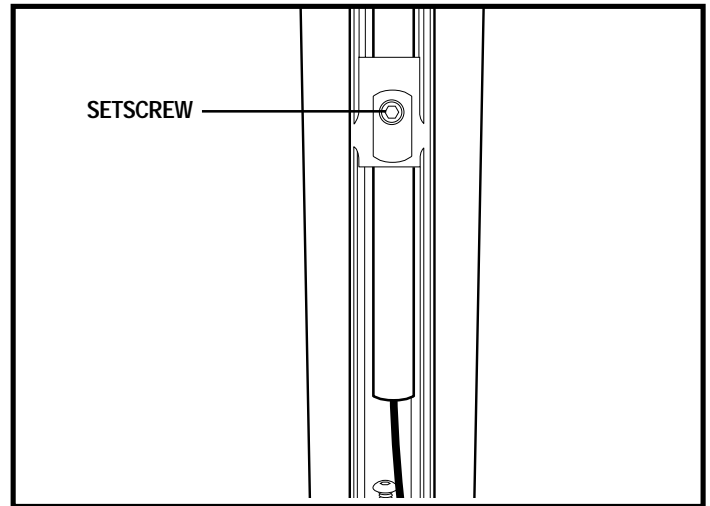

Figure 19. Underside of Armrest
4. Loosen the setscrew on the underside of both armrests. See figure 19.